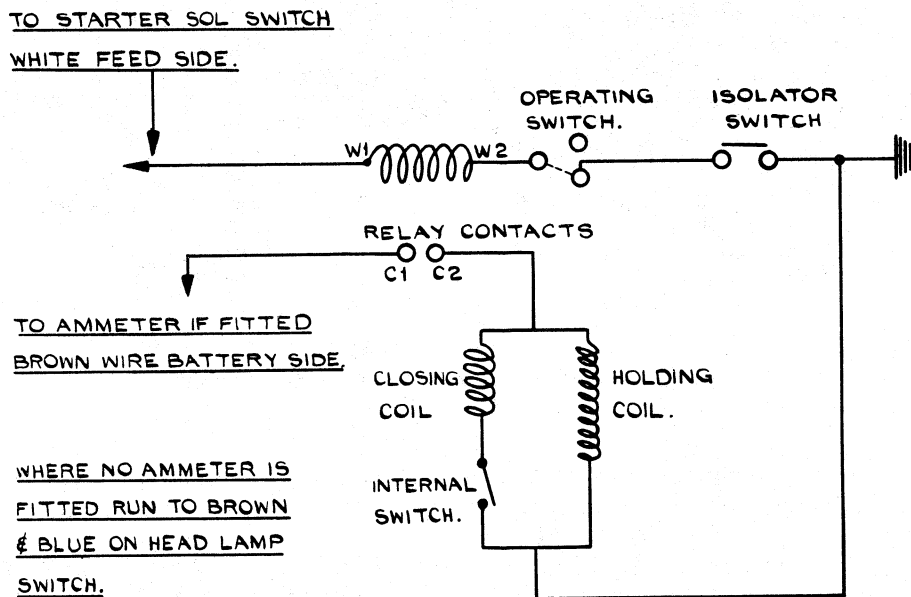

Fig. 5
(Fig. 5—Wiring Diagram)
(iv) Fault Locating. (See Fig. 5)
- (a) A dangerous condition can arise if that part of the circuit between "W2" (Fig. 5) on the relay to the non-earthed side of the isolator switch becomes accidentally earthed. Any earthing would bring in the overdrive on all gears including reverse.